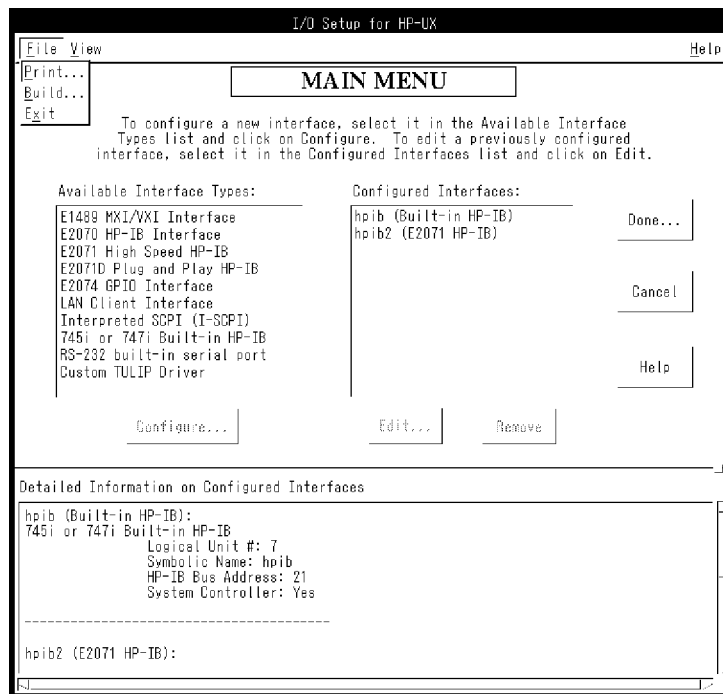

Figure 5-13. I/O Setup for HP-UX Window with File Menu
4. Choose **File: Build ...** to rebuild the kernel as shown in Figure 5-13.